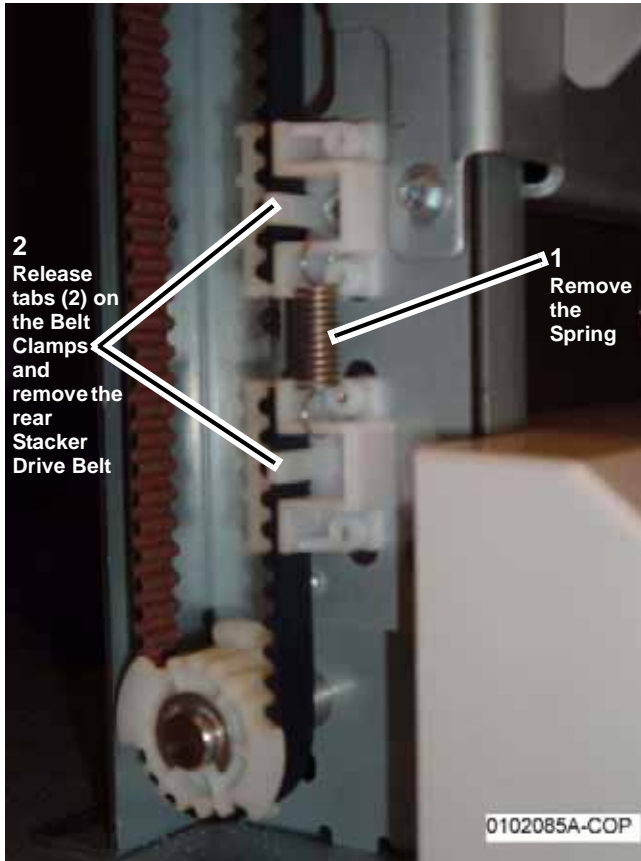

Figure 2 Removing the front Stacker Belt (A Finisher shown)
1. Reinstall components in the reverse order of the removal procedure. Refer to Figure 1 and Figure 2 for Stacker Drive Belt positioning in the Belt Clamps.